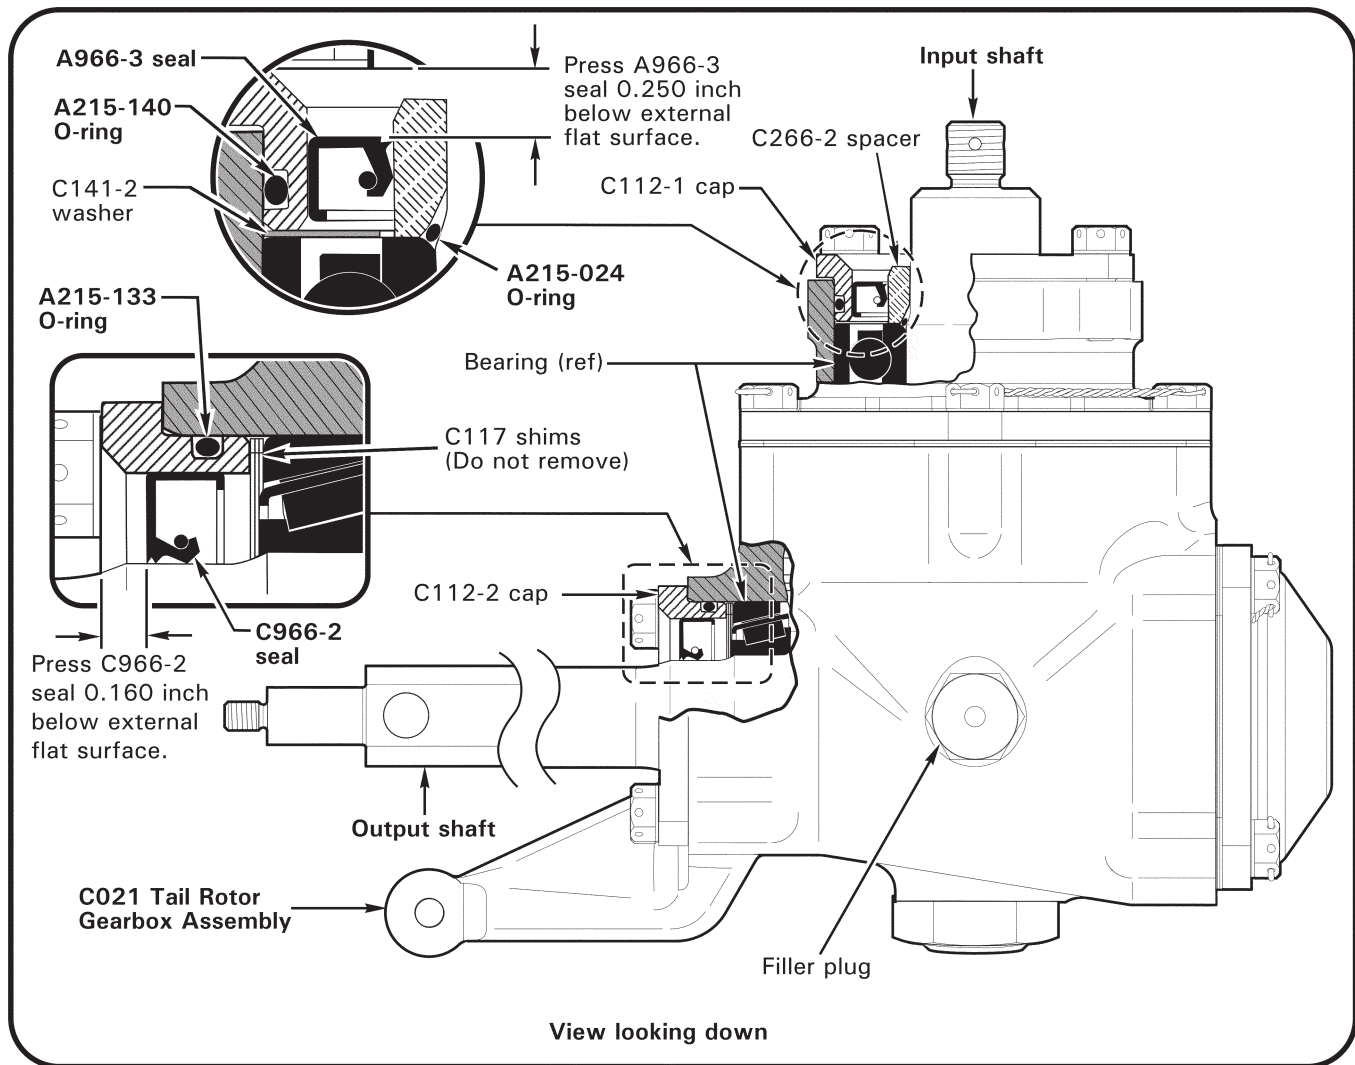

FIGURE 7-13 SHAFT SEAL REPLACEMENT
5. Refer to Figure 7-13. Orient new seal with open face pointing toward gearbox and press into cap bore 0.250 inch below external flat surface.
8. Lubricate seal lip with correct gearbox oil and slide cap over input shaft. Align cap and gearbox bolt holes and press cap into gearbox. Install (4) MS20074-04-06 bolts. Special torque bolts per § 23-33 and safety in pairs using 0.032-inch diameter lockwire.